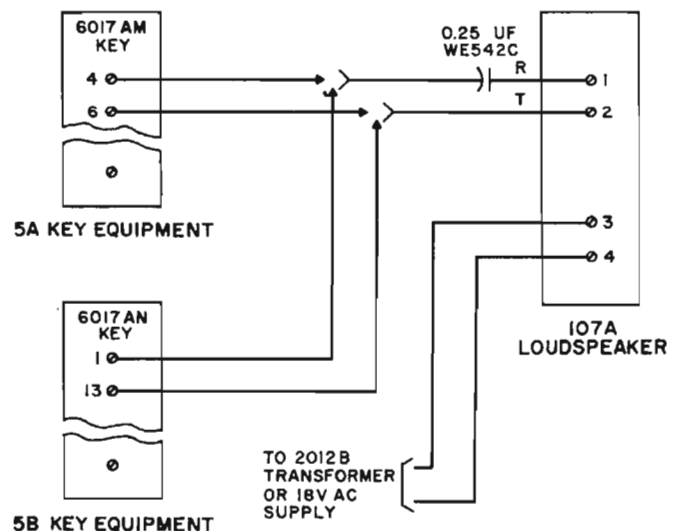

Fig. 3 - Connections for 107A Loudspeaker Set
4.02 The 107A-type loudspeaker was designed to be operated from a commercial 115-volt 60-cycle source using the 2012B transformer. However, other power supplies may be used, such as the 18-volt ac terminals of a 101G power plant. Refer to Fig. 3 for connections to power supply and 6017-type key.